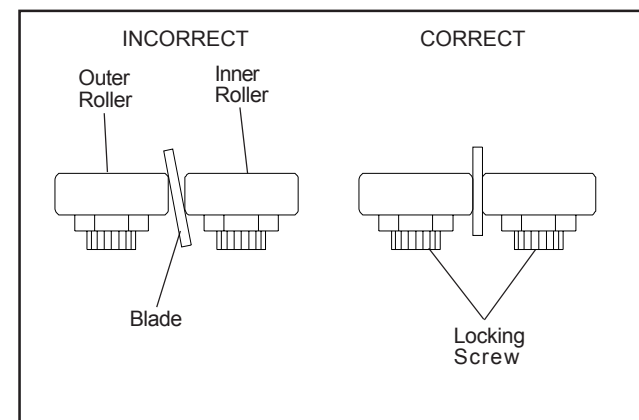

Figure 15: Blade -to-bearing orientation
4. Position the bearing by turning the bushing. Set the clearance at approximately 0.001 inch. The blade should be in a vertical position between the bearings (see figure 15).